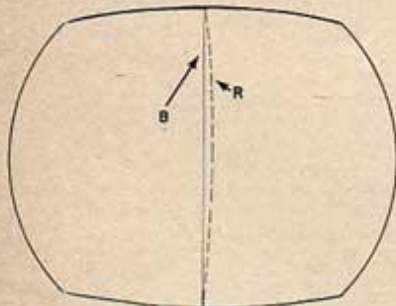

Fig. 2B. Symmetrical displacement of vertical lines
- b.*—Adjust the red vertical tilt, VR-4B, for symmetrical displacement of the center red vertical line with respect to the center vertical blue line. See figure 2b.
- c.*—Adjust green vertical tilt, VR-2B, for symmetrical displacement of the center green vertical line with respect to the center vertical blue line. Similar to figure 2b.